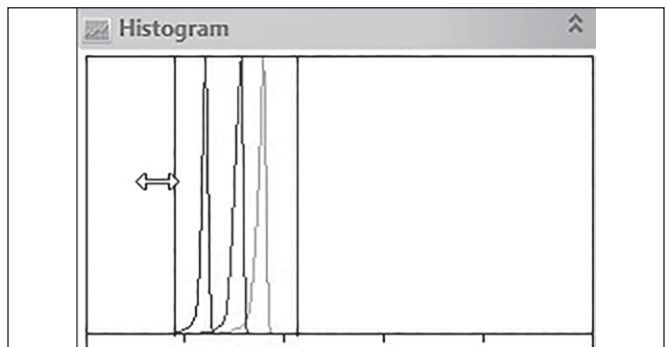

Figure 6b. Histogram window showing the screenstretch adjustment bars
7. If you want to “screen stretch” the histogram, meaning change the black and white points in the image in order to see what kind of faint detail you have captured, grab the left and right edges of the histogram window, and slide the vertical bars closer to the histogram bump. Moving the right edge bar closer to the end of the hump will raise the brightness of the entire image, and moving the left edge bar closer to the start of the hump will darken down the black point, boosting the contrast. (**Figure 6b**). Note that the live histogram stretching will NOT change a trigger image that is displayed on the right. It will affect the NEXT image that downloads from the camera, so take another exposure and check the results.